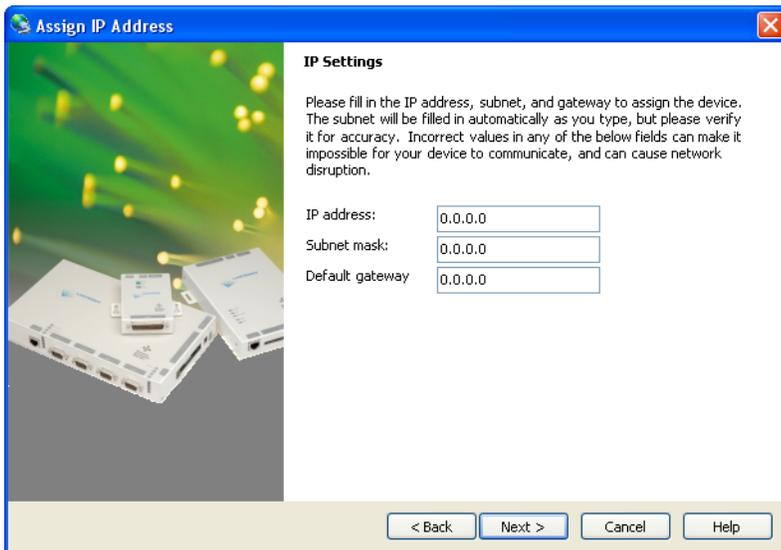

Figure 22: IP Settings Window
6. Click on the Assign a specific IP address radio button, then click on the  button. The IP Settings window appears (see Figure 22).